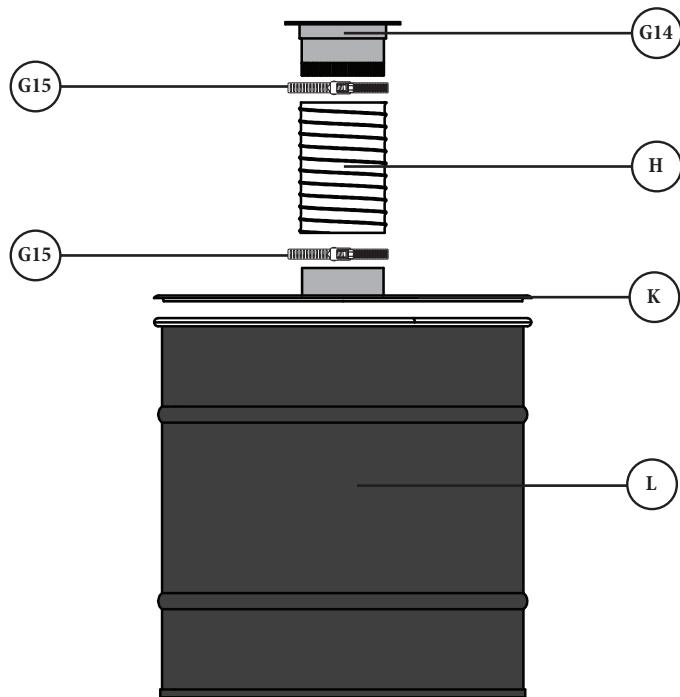

FIG. 26
26 Attach the Flex Hose (H) to the inlet on the Drum Lid (K) and secure it in place using a Hose Clamp (G15). Loosely place a second Hose Clamp (G15) onto the hose and then move the Drum (L) underneath the Wall Bracket (F). Connect the Flex Hose (H) to the Collar (G14) and secure in place using the additional Hose Clamp (G15) [FIG. 26].